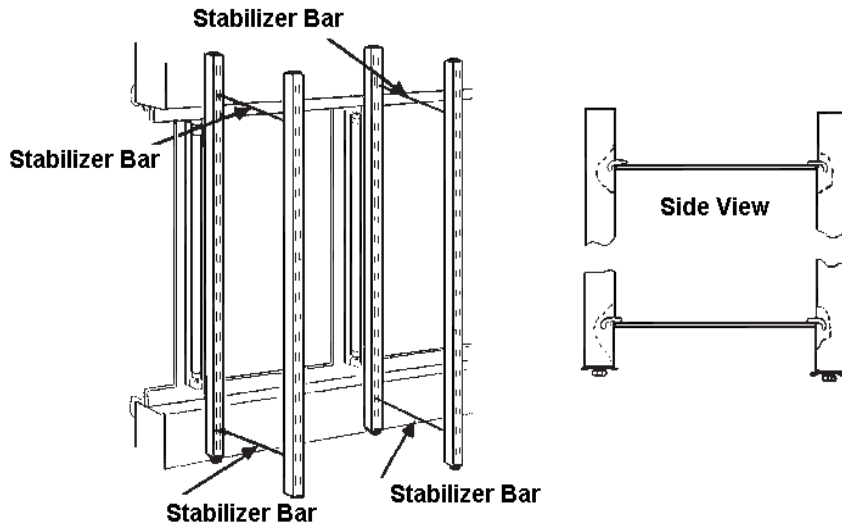

Figure 23
5. For ease of shelf installation, Ardco supplies Post Stabilizer Bars. Refer to Figure 23 There will be four bars per frame: